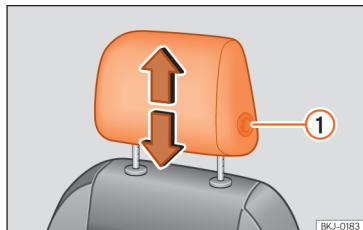
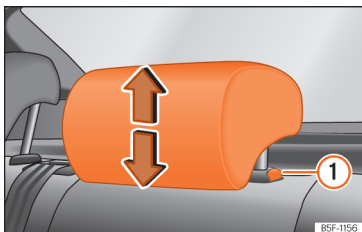

Fig. 63 Front seat: adjusting the headrest.
Fig. 64 Rear headrest: adjusting the headrest.
- Grab the sides of the headrests with both hands and push upwards to the desired position. To lower it, repeat the same action, pressing the button on the side ① »» Fig. 63, »» Fig. 64.